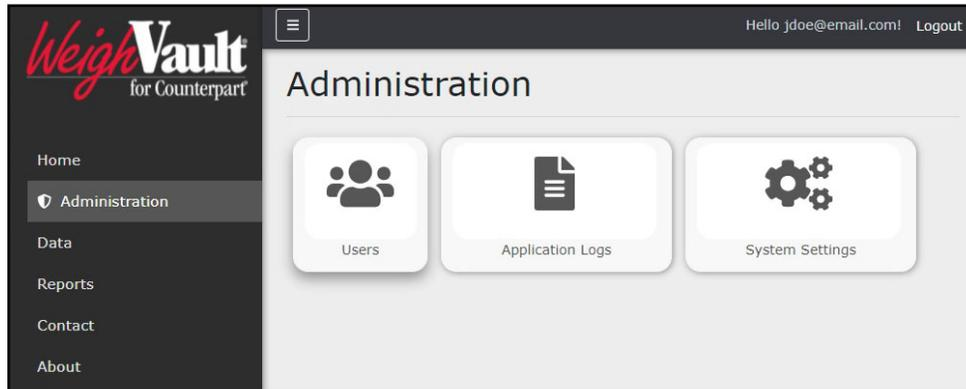

Figure 4-3. Administration Page
3. The Administration page displays (see Figure 4-3 on page 38).